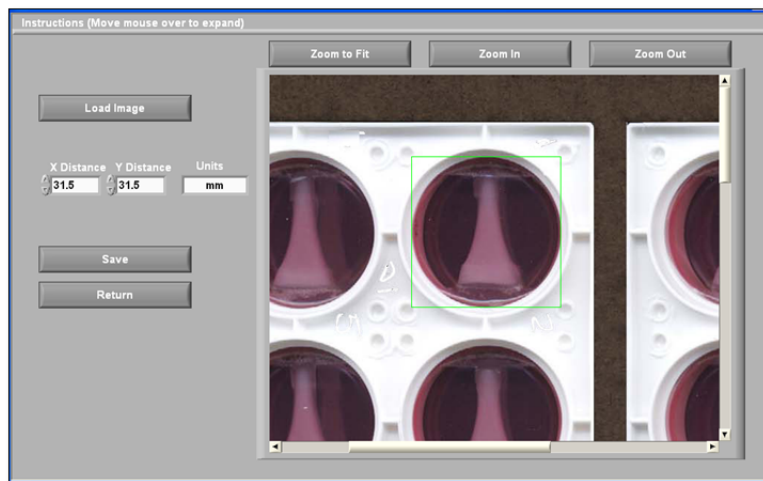

Figure 18. Screen to create a calibration file
- c. To use area measurement units of μm^2 , mm^2 , or cm^2 , choose *CREATE CALIBRATION FILE*. This will take the user to the Calibration screen (**Figure 18**).